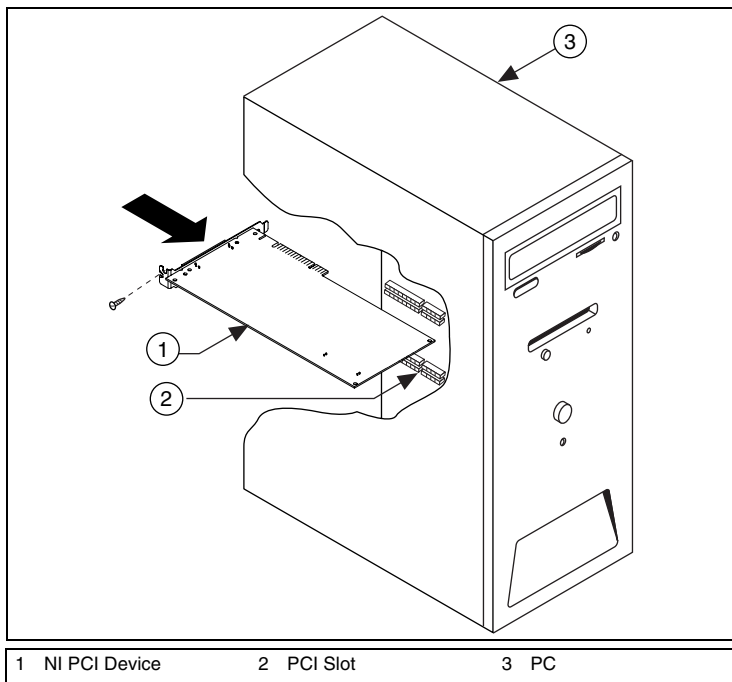

Figure 2. PCI Installation
3. Insert the device into an open PCI slot, as shown in Figure 2.